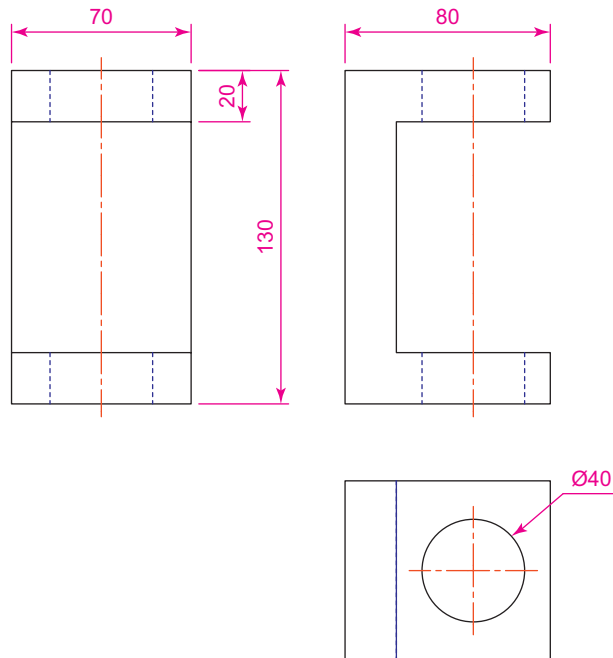
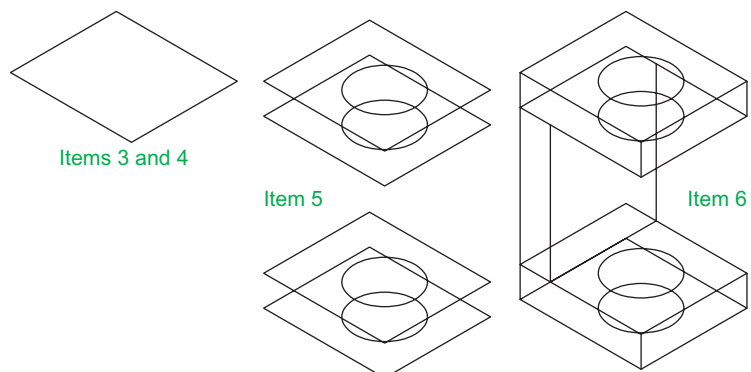

Fig. 7.18 First example – isometric drawing – the model
Fig. 7.19 First example – isometric drawing – items 3, 4, 5 and 6
1. Working to the shapes and sizes given in the orthographic projection Fig. 7.18. Set **Snap** on (press the **F9** function key) and **Grid** on (**F7**).
3. With **Line**, construct the outline of the top of the model (Fig. 7.19) working to the dimensions given in Fig. 7.18.
4. Call **Ellipse** tool and set to isocircle and add the isocircle of radius 20 centred in its correct position in the outline of the top (Fig. 7.19).
6. Add lines as shown in Fig. 7.19.